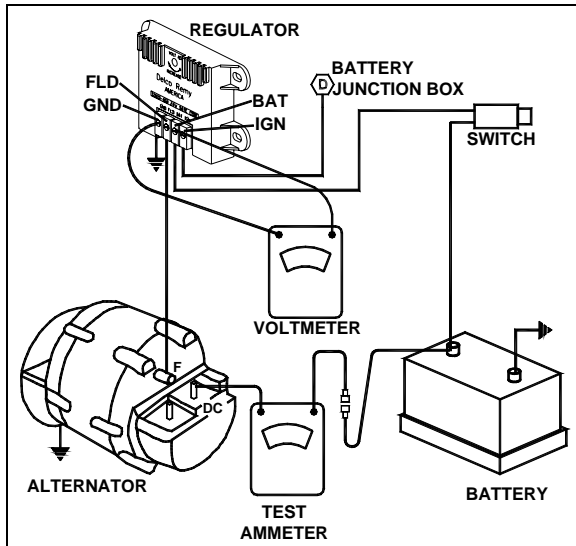

FIGURE 31: REGULATOR VOLTAGE TEST 06416
1. To check the voltage setting, connect a voltmeter across the “POS” and “NEG” terminals on the regulator, and an ammeter to the “C” terminal on the alternator. Refer to Figure 31.